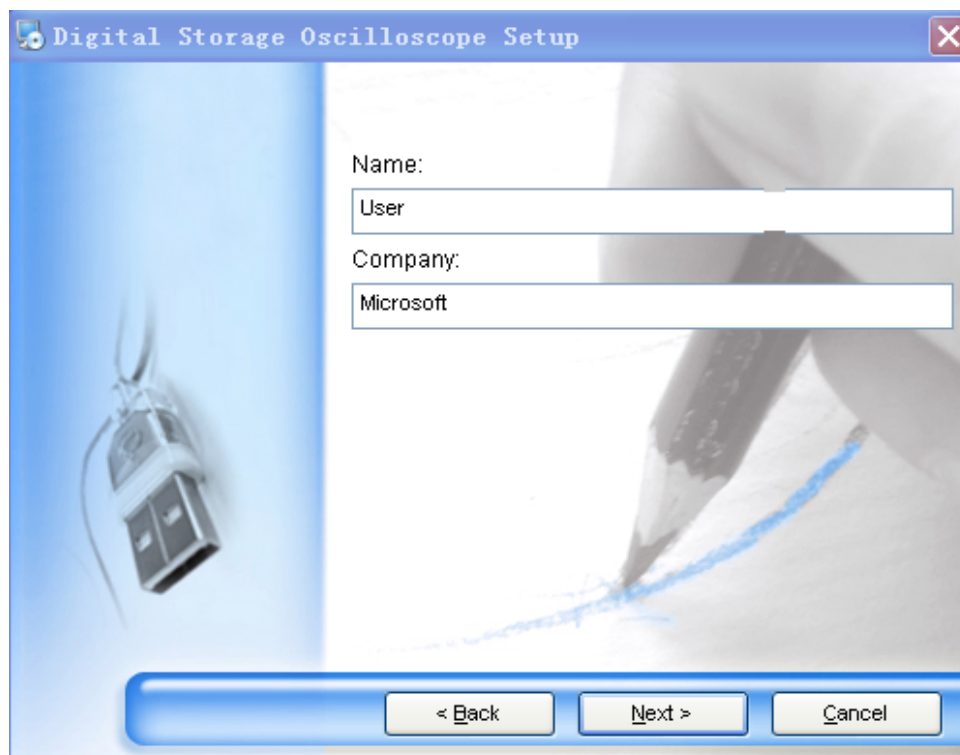
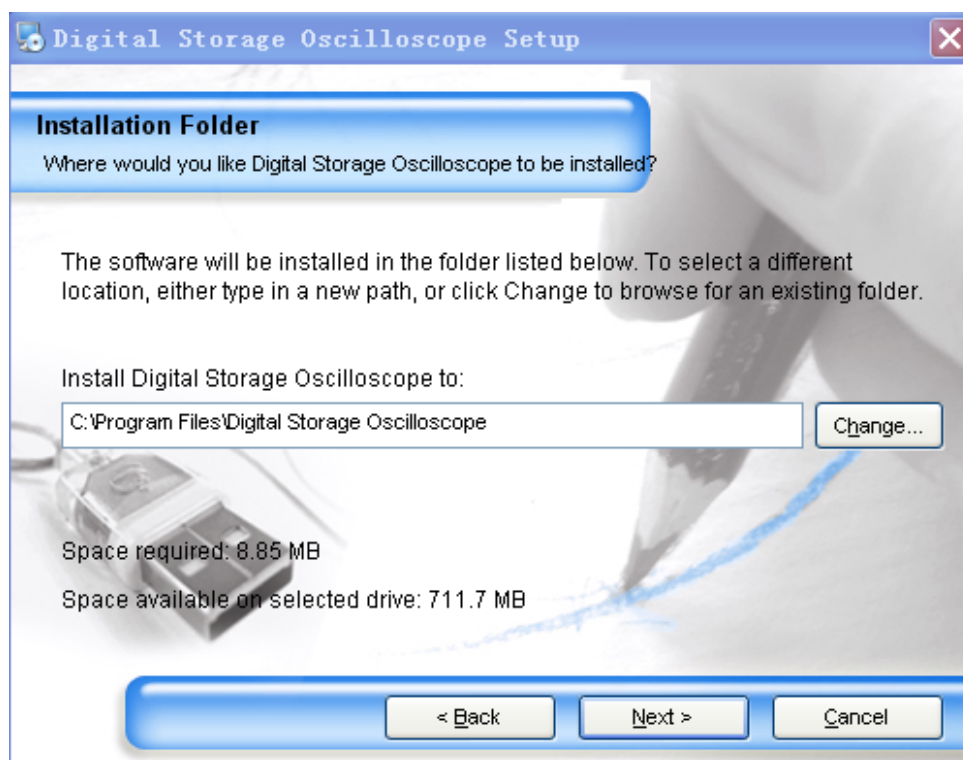
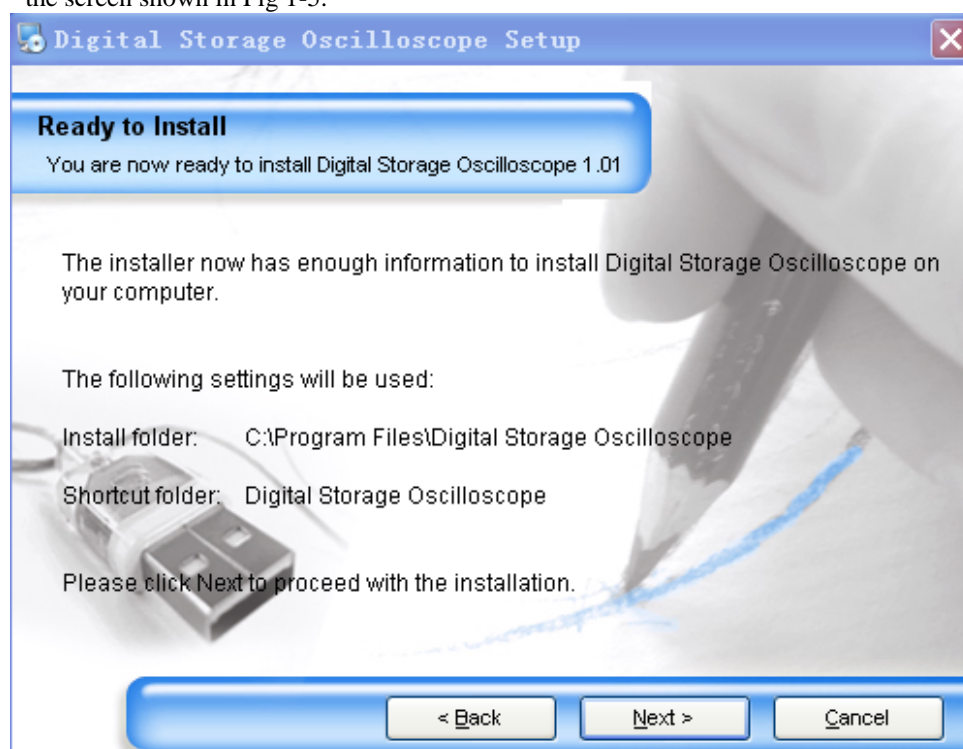

Fig 1-3
Fig 1-4
Fig 1-5
**Step three :** Read the prompt in Fig 1-2 then click the [NEXT (N)] button to enter the next step, as shown in Fig 1-3.
**Step four :** In Fig 1-3, enter your user name and company name, then click the [NEXT (N)] button to enter the next step, as shown in Fig 1-4.
**Step five :** In Fig 1-4, click the [CHANGE (H) ...] button to specify the installation path of the software, then click [NEXT (N)]. You can also click [NEXT (N)] directly to use the default path. Enter the screen shown in Fig 1-5.
**Step six :** In Fig 1-5, after confirming the message is correct, click [NEXT (N)] to enter the front page for automatic installation, as shown in Fig 1-6.